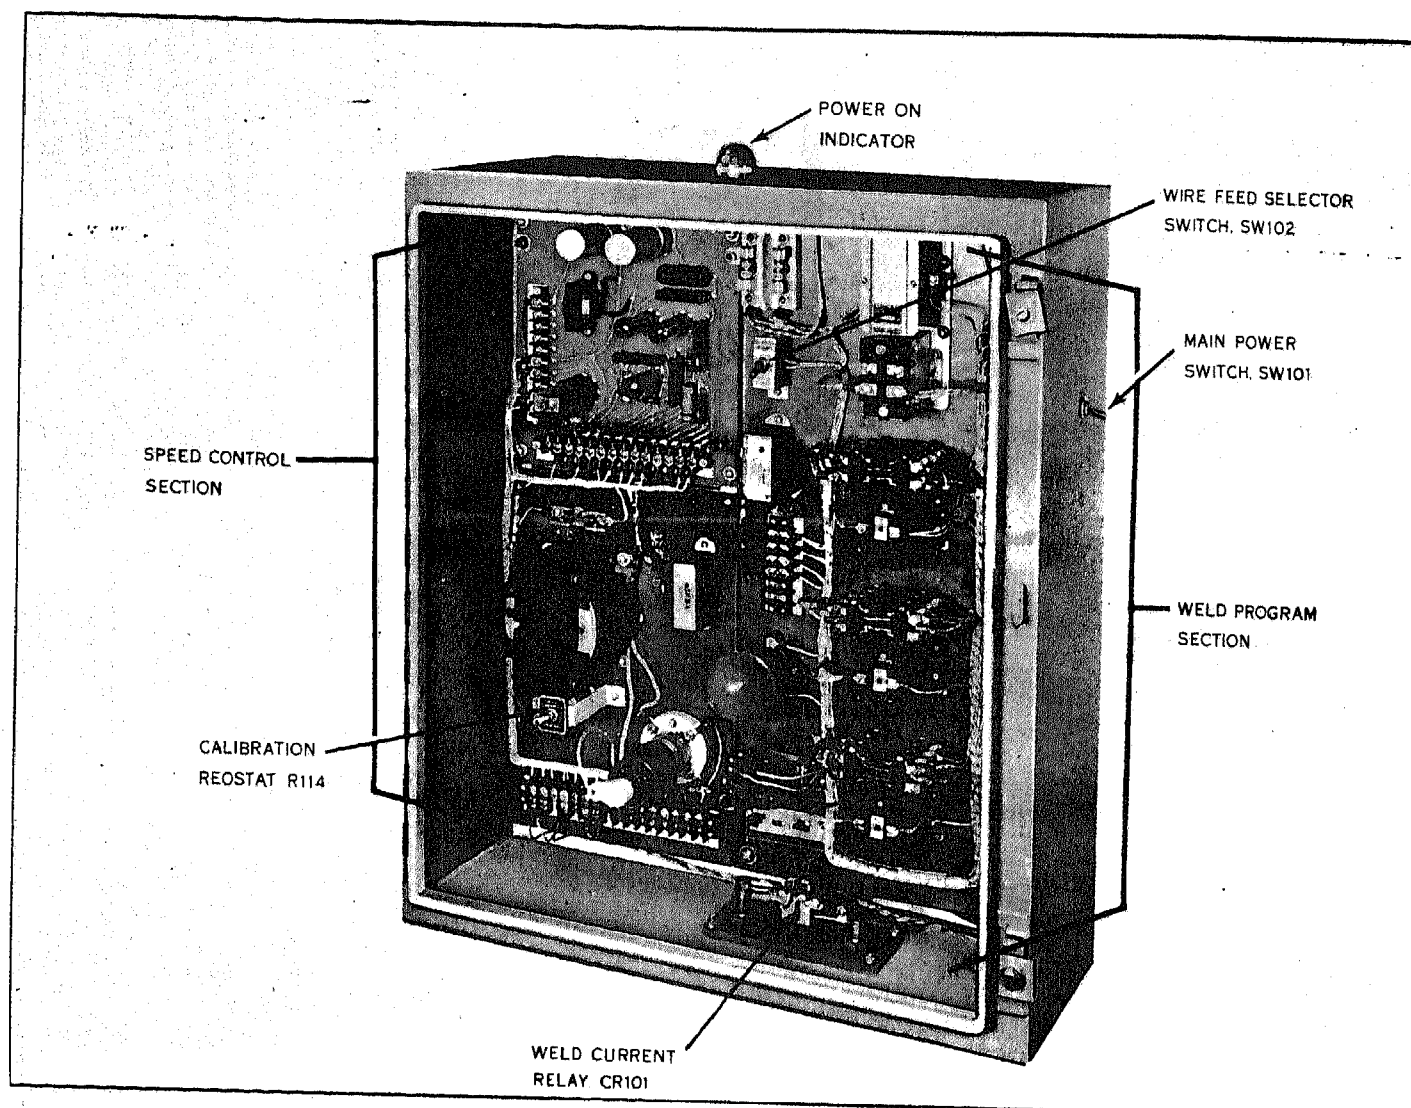
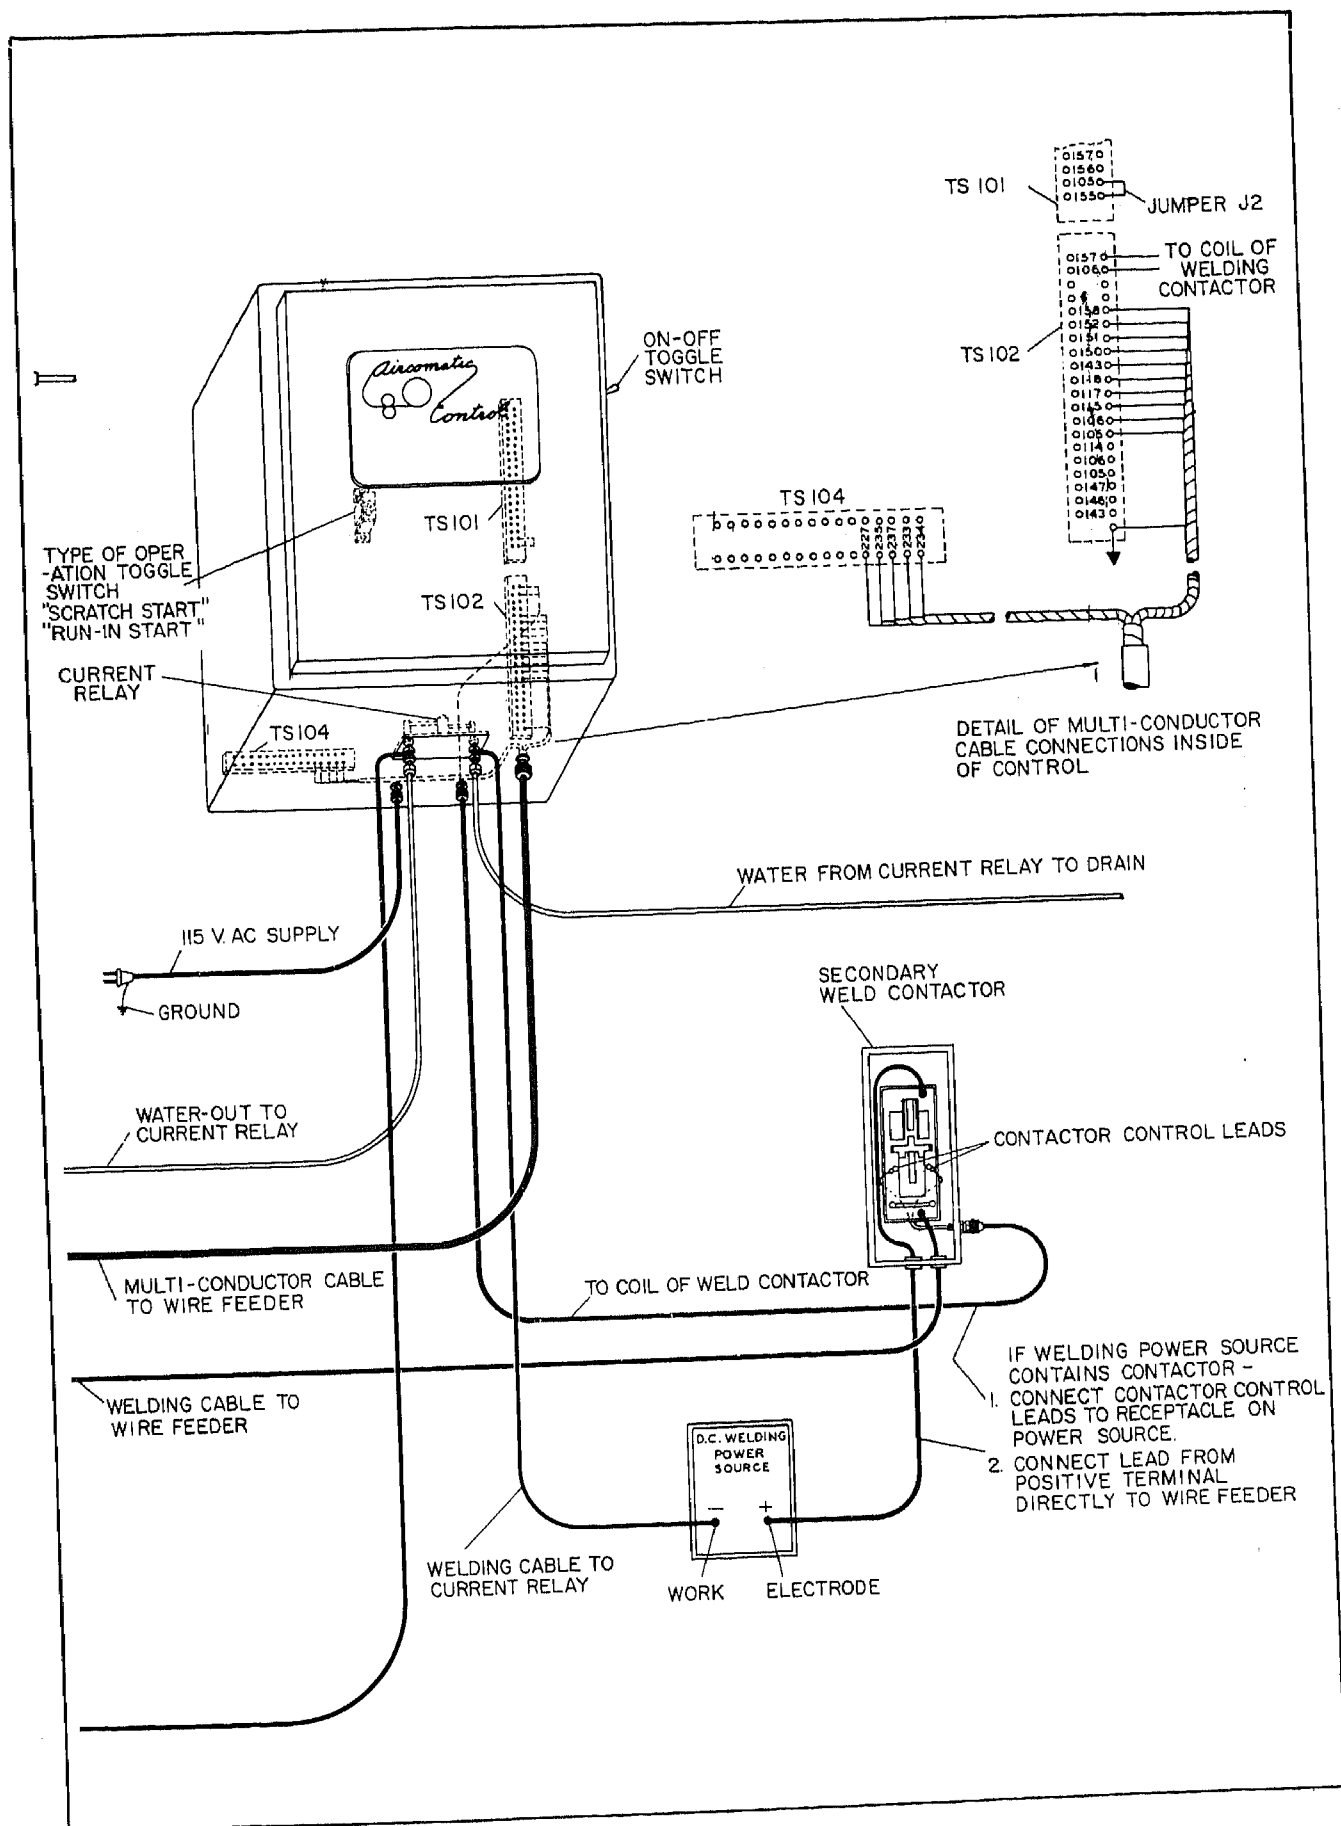

Fig. 4 Model AHC-B Control (Inside View)
Fig. 5 Interconnection Diagram
After making sure that the main power switch (Fig. 4) is OFF, connect Control in accordance with interconnection diagram (Fig. 5) as follows:
- Turn main power switch (Fig. 4) OFF.
- Turn main power switch (SW101) (Fig. 4) OFF.
To shut down Control, turn power switch (Fig. 4) OFF.